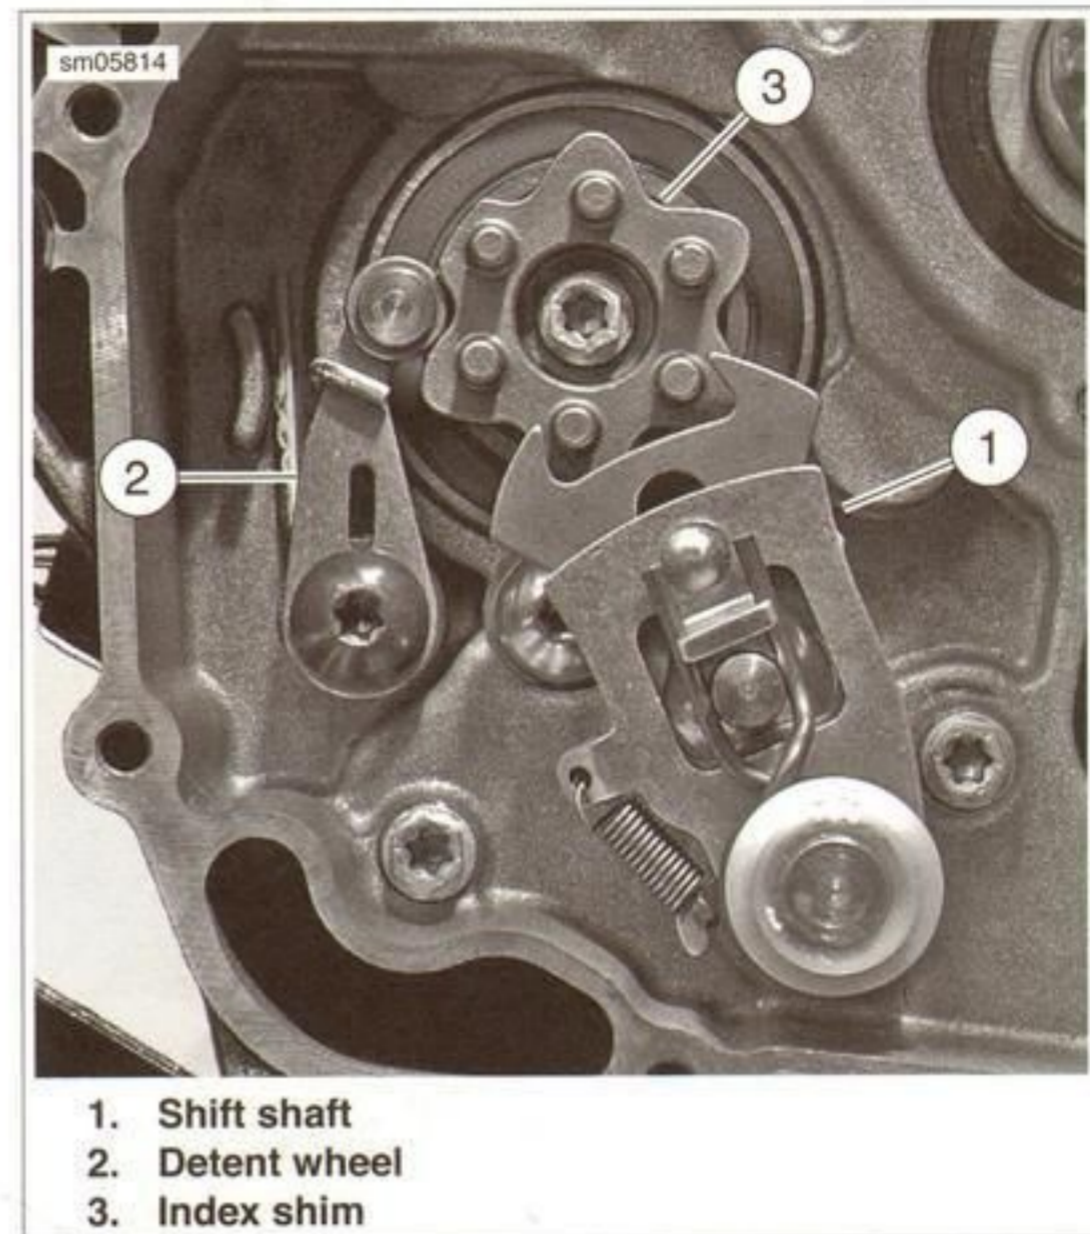

Figure 6-63. Shift Linkage
1. See Figure 6-63. Remove pin and shift shaft assembly from crankcase.